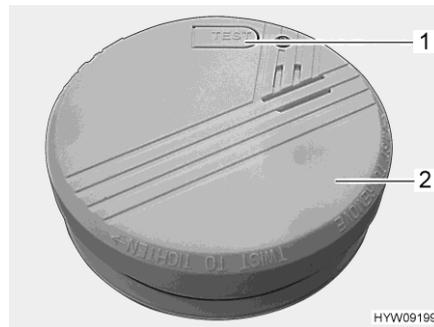

Fig. 68 Smoke alarm
- Press the test button (Fig. 68,1) on the smoke alarm (Fig. 68,2) until the alarm tone sounds. The alarm tone falls silent after the test button is released.